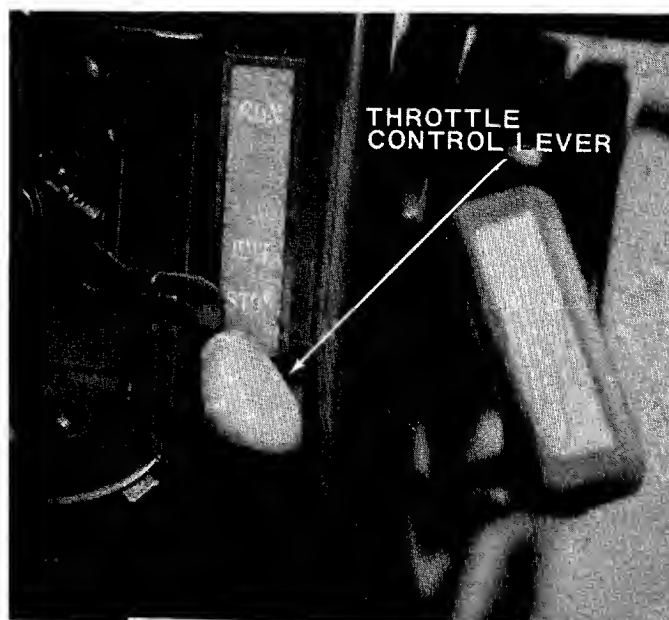

FIGURE 18
1. Place control lever (on engine) in run position. See figure 18.
1. Move control lever to STOP position. See figure 18.